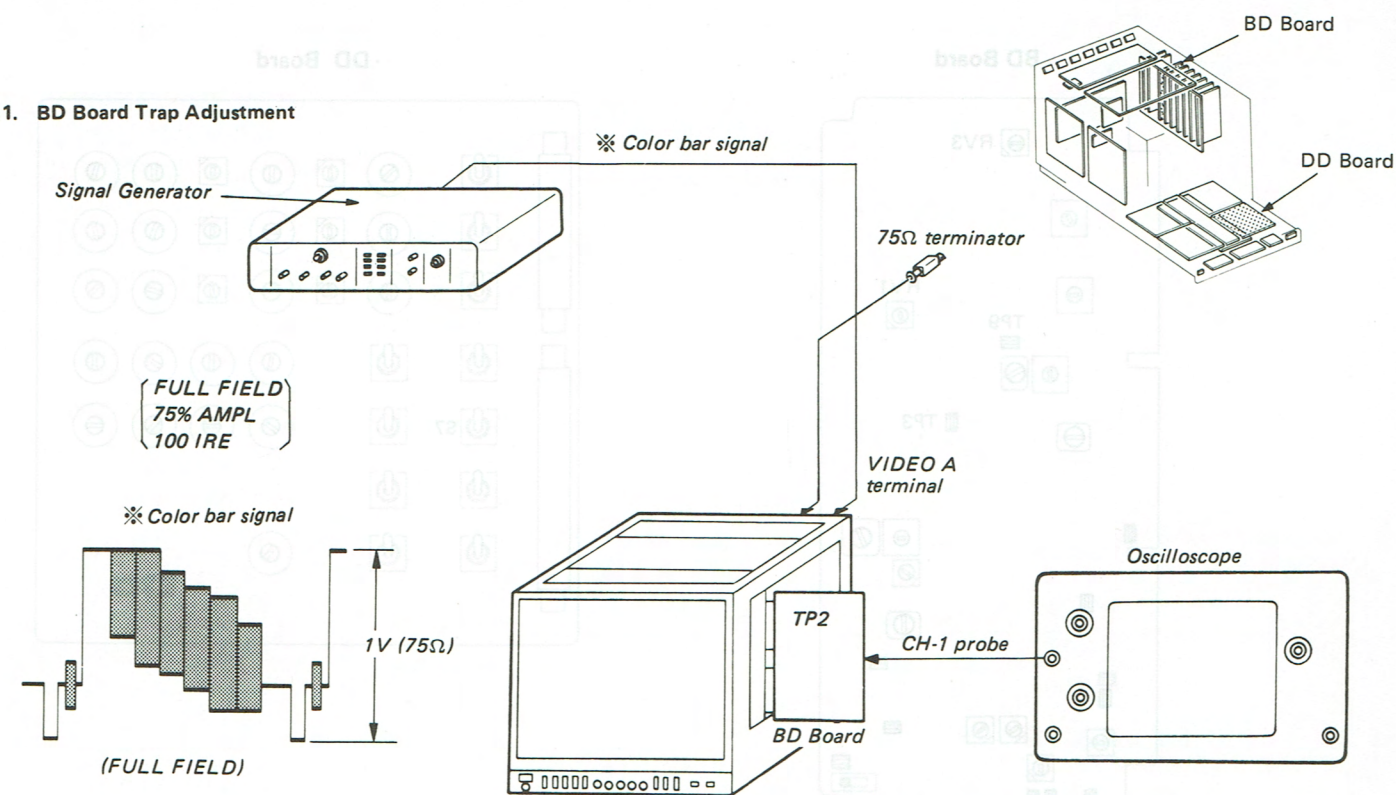

Fig. 11-1.
1. Adjust as shown in Fig. 11-1.